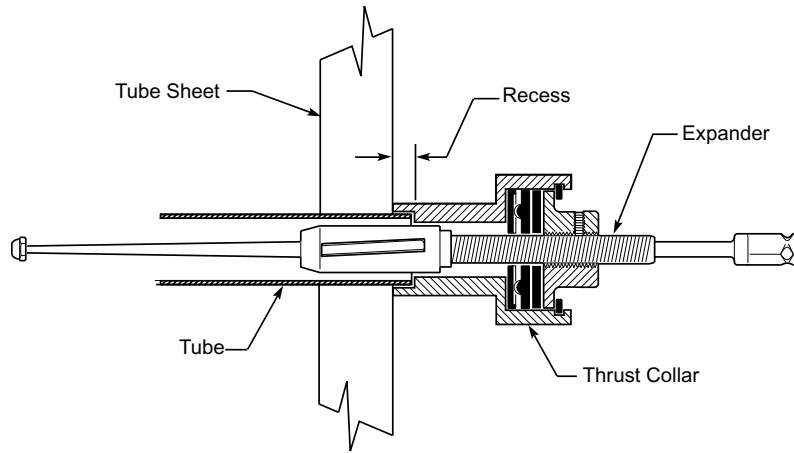

FIGURE 2 - USING TUBE EXPANDER
- c. The tubes must be as long as the vessel and will typically be slightly longer extending past the tube sheets. With the tubes flush with the tube sheet on one end of the vessel, check the tube extension past the opposite end's tube sheet. If there is more than 3/8 inch of tube extension past the opposite tube sheet, use a recessed rolling thrust collar on your expander to more evenly distribute the tube extension on both ends of the shell. See Figure 2.